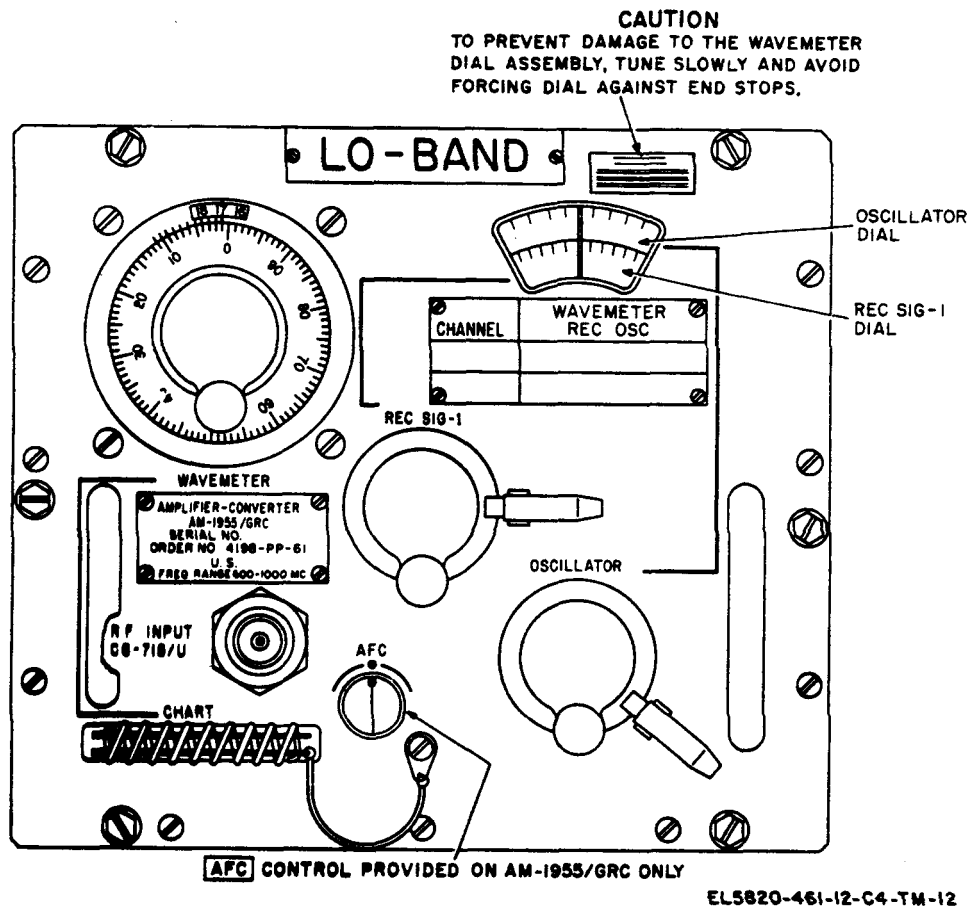

Figure 3-7. Amplifier-Converter AM-1955(\*)/GRC,
c. *Amplifier-Converter AM-1955(\*)/GRC and Amplifier-Converter AM-1956(\*)/GRC* (fig. 3-7). The operating controls and indicators listed in the following chart are common to the AM-1955(\*)/GRC and AM-1956(\*)/GRC, except where indicated. The AM-1955/GRC is plugged into R-1148(P)/GRC and the AM-1955A/GRC into the R-1331(\*) (P)/GRC when the low-band frequencies are to be received, and the AM-1956/GRC is plugged into the R-1148(P)/GRC and the AM-1955A/GRC into the R-1331(\*) (P)/GRC when the high-band frequencies are to be received. With the exception of the nameplate and AFC control on the front panel, the AM-1956/GRC is functionally